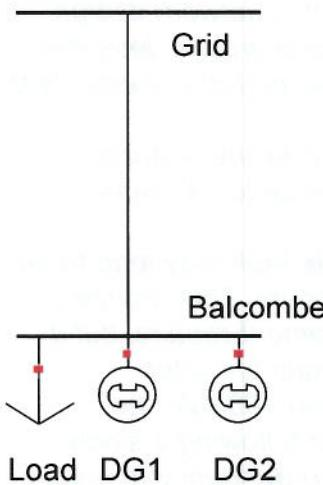

Figure Q4.1
- (c) Busbar Balcombe will be a new supply hub for several villages in West Sussex. EDF Energy engineers plan to connect Balcombe to the main grid through a 5 km, 33 kV overhead distribution circuit. There are also 2 identical landfill gas based distributed generators of 5MW capacity connected to Balcombe, as shown in the figure Q4.1. The annual profile of the load connected to Balcombe Busbar is shown in figure Q4.2.